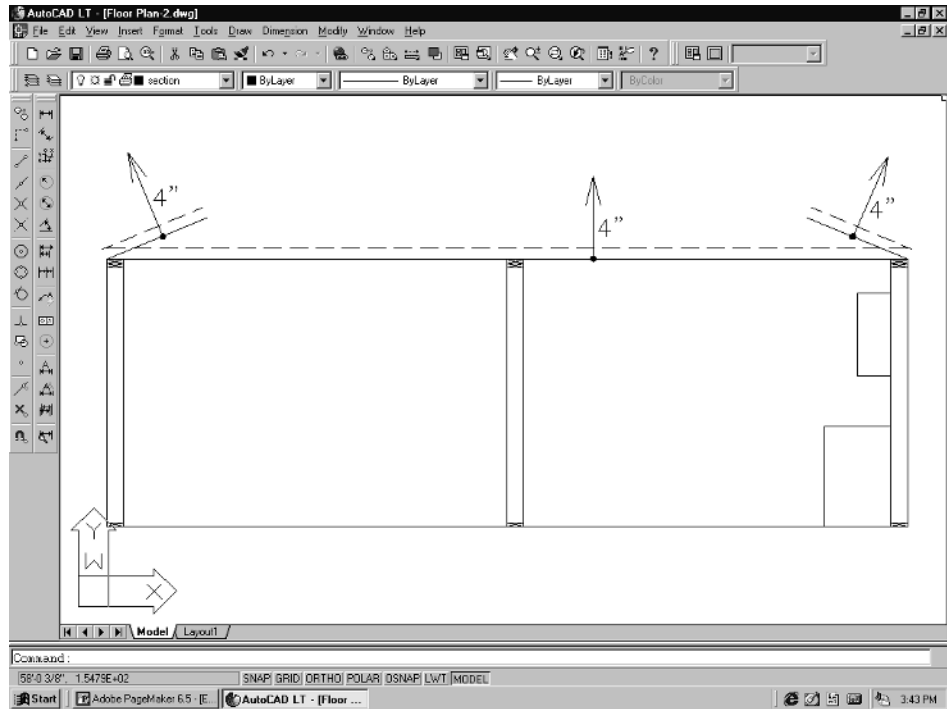

Figure 3-48
1. You already have the roof lines with the correct 5/12 pitch attached to the section corners. So to start, offset the ceiling line and the two roof lines 4" up as in Figure 3-48. This gives us the basic building blocks to construct the truss.